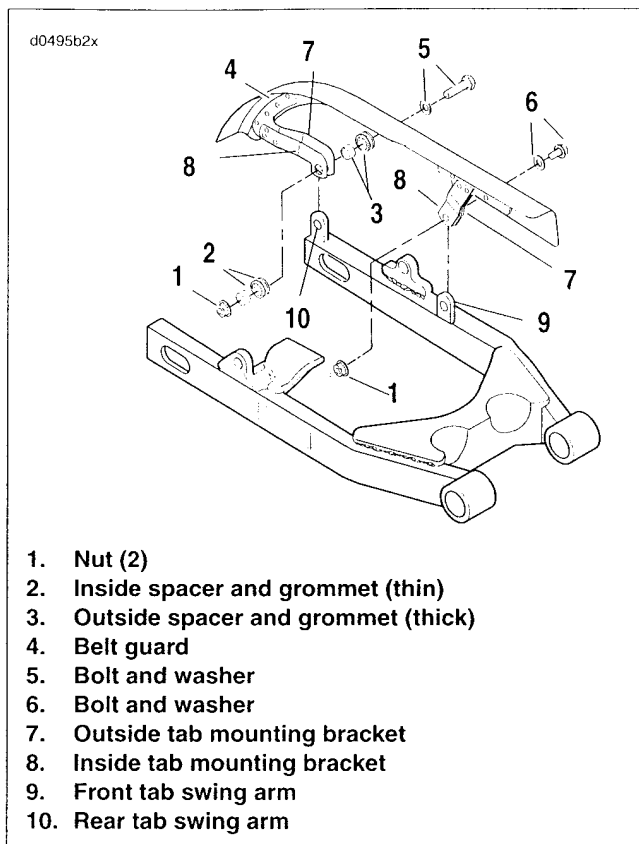

Figure 2-108. Belt Guard
1. See Figure 2-108. Remove front bolt and washer (6) from nut (1).
2. Remove rear bolt and washer (5) from nut (1).
3. Lift belt guard (4) away from rear fork.
1. See Figure 2-108. If removed, install grommets and spacers on belt guard. Thicker grommet and spacer (3) fit around outside tab mounting bracket (7). Thinner grommet and spacer (2) fit around inside tab mounting bracket (8).
See Figure 2-108. Verify front and rear swingarm tabs (9, 10) are in between the belt guard's outside (7) and inside (8) mounting bracket. Failure to do so may cause equipment damage and could result in death or serious injury.
2. Place assembled belt guard over front (9) and rear (10) tabs on rear fork.
3. Loosely install front bolt and washer (6) with nut (1).
4. Loosely install rear bolt and washer (5) with nut (1).